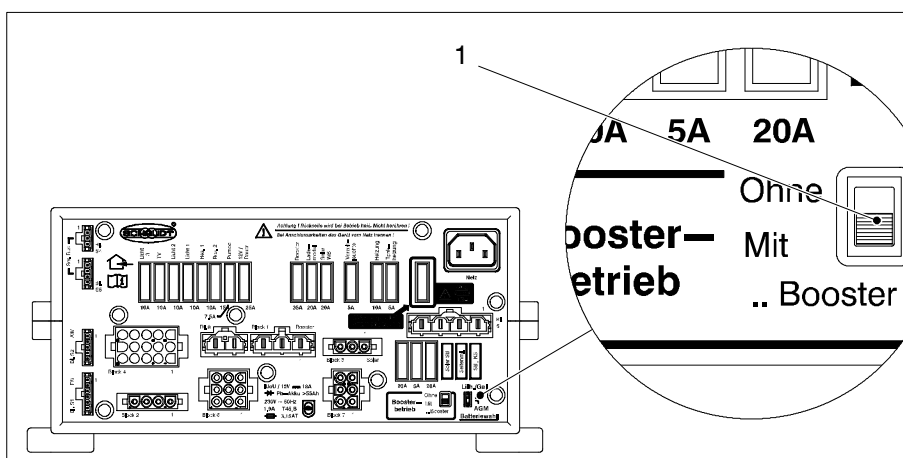

Fig. 2 Battery selector switch
- ▶ Move the "Booster mode" switch (Fig. 2 Pos. 1) on the EBL 227 into position "With .. booster".